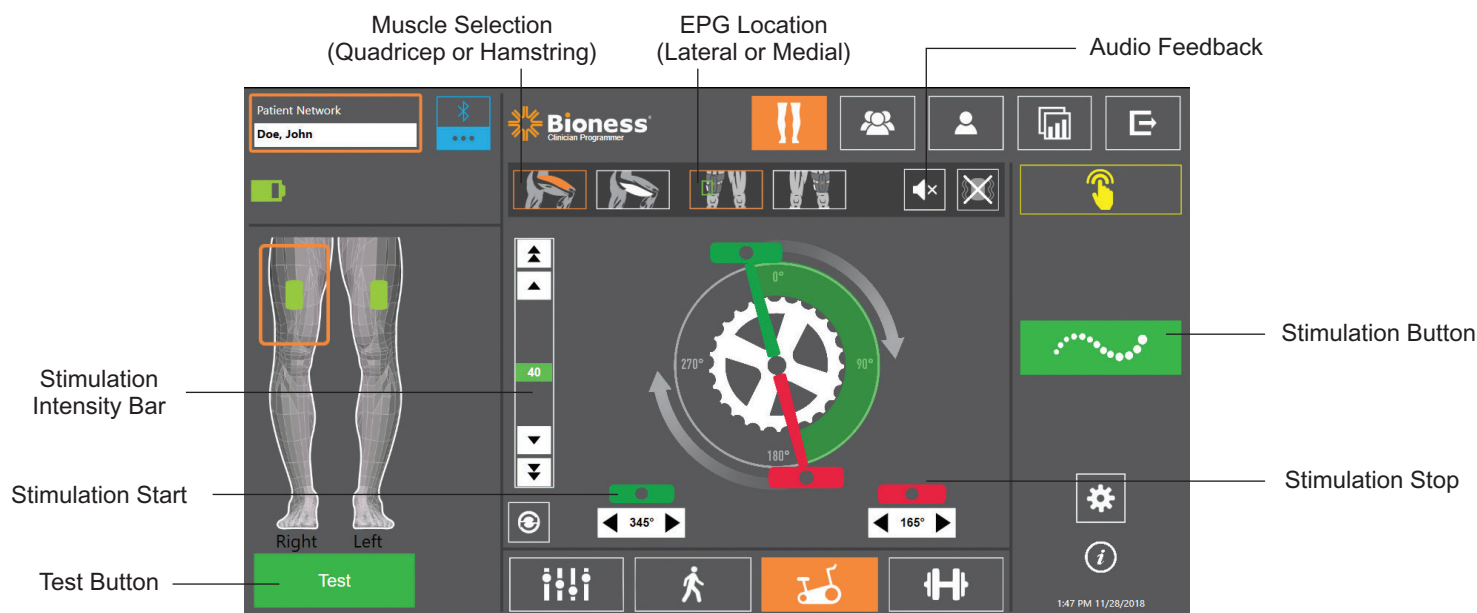

Figure 9-8: Programming Stimulation, Cycle Training Settings Screen
5. Press the Cycle Training Screen icon . See Figure 9-8.
6. For the Thigh Stand-Alone Cuff, select the appropriate muscle group (quadricep or hamstring) by pressing the appropriate Muscle Selection button  . The selection will be highlighted in orange. See Figure 9-8.
7. For the Thigh Stand-Alone Cuff, select the physical location (lateral or medial) of the EPG by pressing the EPG Location icon  . The selection will be boxed in green. See Figure 9-8.
8. For new patients, make sure the stimulation intensity is set to 0 using the arrows on the Stimulation Intensity Bar.. See Figure 9-8.
9. Press the Test button to save setting and turn on stimulation. Gradually increase the stimulation intensity to the desired level using the arrows on the Stimulation Intensity Bar. See Figure 9-8.
- Fine-tune the Stimulation Intensity while the patient is cycling. See Figure 9-8.
Note: Enabling the Audio Feedback indicator may assist in optimizing the Stimulation Start and Stop settings. See Figure 9-8. Palpating the muscle may assist in determining when muscle contraction occurs.